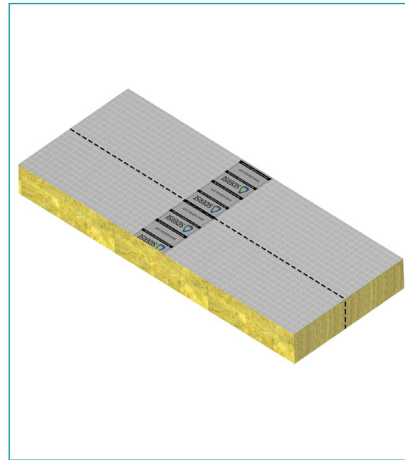

Fig 1. The cutting direction is indicated on the firefloor slab.
- Cut the sheet into strips to provide a +10mm compression between joists. Cut in the direction as indicated on the firefloor insulation slab (Fig 1). Cut through the foil facings on both sides of the slab with a sharp knife. Carefully cut the mineral fibre with the serrated blade. Avoid a violent jagged sawing action as this will rip the foil facing, as opposed to cleanly cutting it. A bandsaw may be preferred for a quicker and cleaner cut.